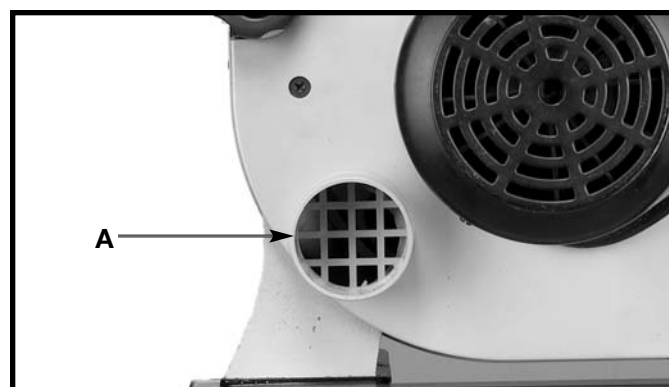

Fig. 38
A dust port (A) Fig. 38, is provided to connect your band saw to a standard shop vacuum or dust collector. The opening of the dust port is 2-1/4" I.D.